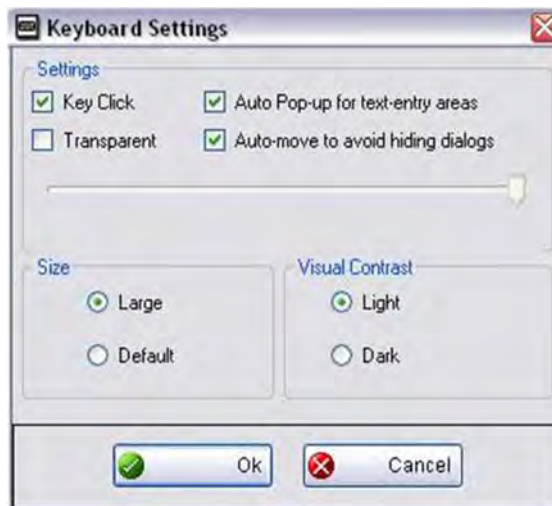

Figure 3-5 Virtual Keyboard settings window
- **Settings** - opens the Virtual Keyboard settings window (Figure 3-5)
- 1— **Settings icon** - opens the Virtual Keyboard settings window (Figure 3-5)
The Virtual Keyboard can be set to open automatically, when a data field or form is selected in certain applications. See the Settings window (Figure 3-5) for selection options.